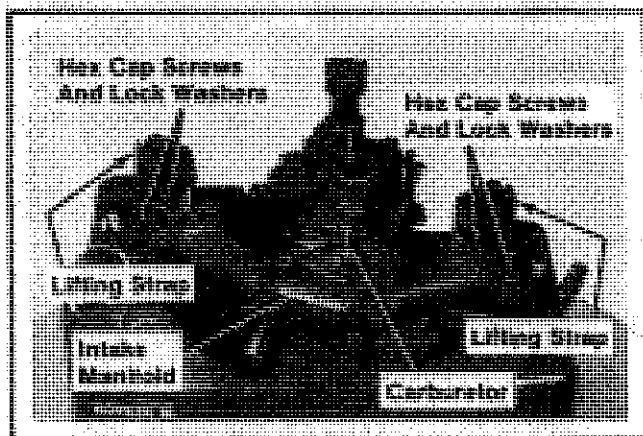

Figure 9-7. Removing Intake Manifold And Carburetor.
4. Remove the hex cap screws, split lock washers, lifting straps, intake manifold with carburetor and intake manifold gaskets. Refer to Figure 9-7.